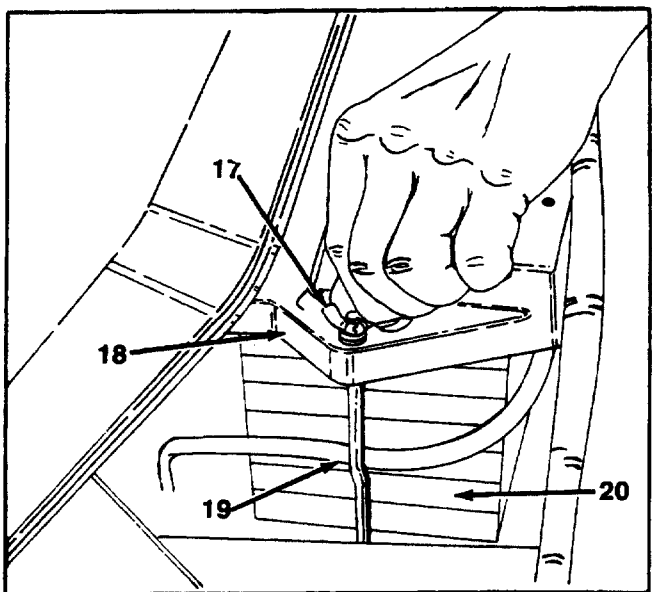

FIGURE 11.
13. Remove the battery cover by removing two wing nuts from battery hold downs. See figure 11.